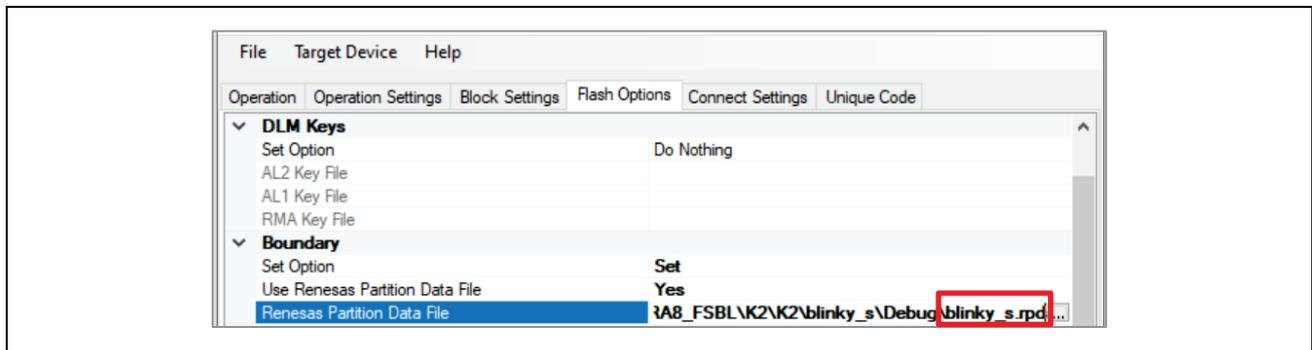

Figure 50. Set up the TrustZone® Boundary using RFP
- In section 2.6, the secure application and the non-secure application should be programmed. In addition, the TrustZone® boundary should be set up using the `blinkys_s.rdp` file generated from the secure project. So, in addition to provide the applications similarly as in Figure 36, users should set up the TrustZone boundary by selecting the `blinkys_s.rdp` file under the RFP **Flash Options** page as shown in Figure 50 in addition to all other settings needed as originally documented in section 2.6.